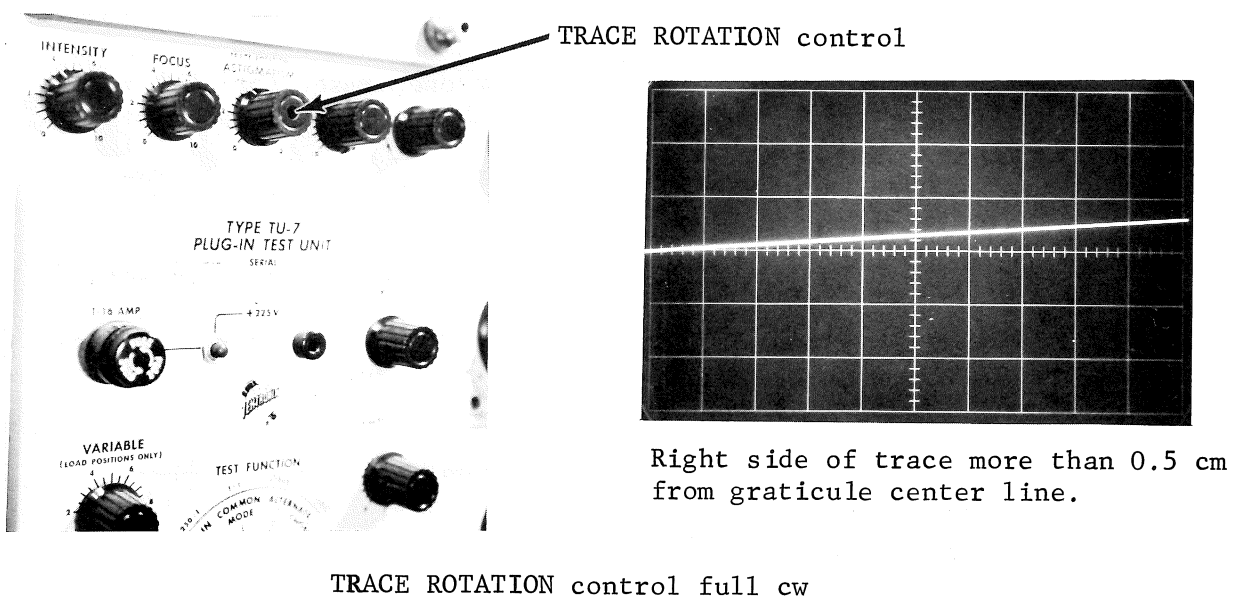

Figure 10
3. Rotate the TRACE ROTATION control full cw and ccw. (Located in the center of the ASTIGMATISM control - see Fig. 10.) The right side of the trace should move 0.5 cm above and below the center graticule line.